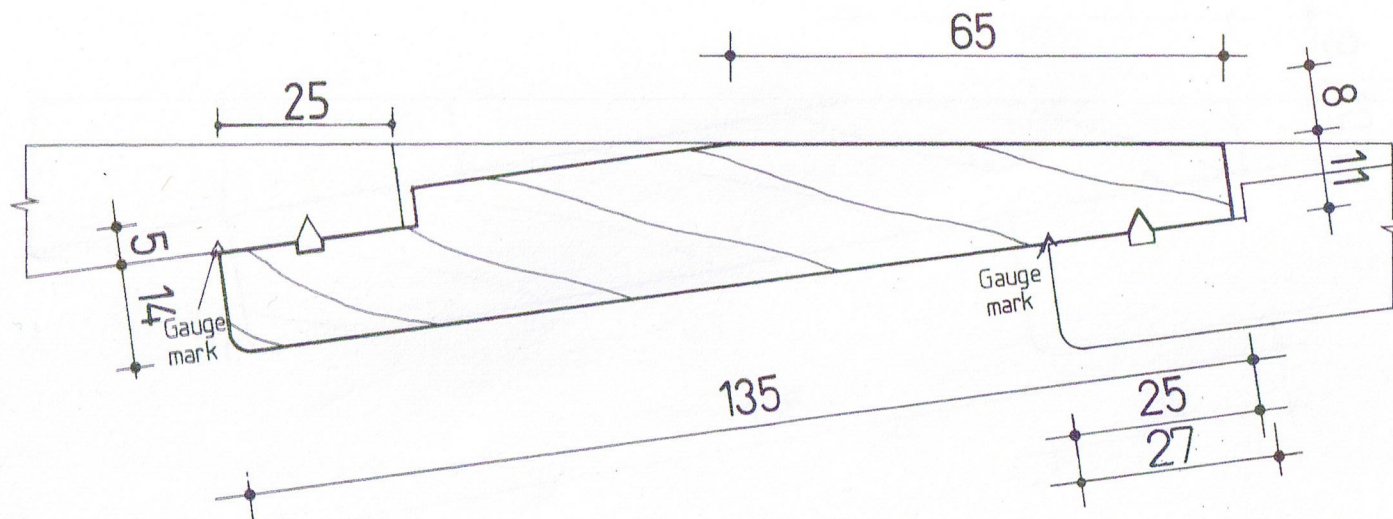

Fig. 1 150 mm x 25 mm REBATED BEVEL-BACK WEATHERBOARD
- Measure from the bottom of the gutter to the bottom of the fascia board. This is measurement A see fig 1.